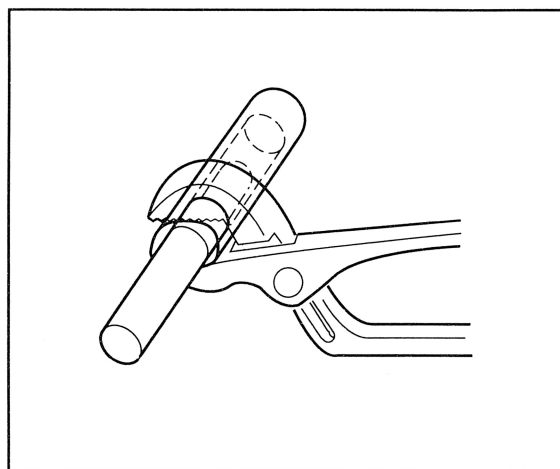

Figure 19 - Crimping the First Half of the Splice Clip (Aluminum Wire)
- Crimp the clip firmly to the wire using 10-inch clip joint pliers. Do not solder the splice (Figure 19).